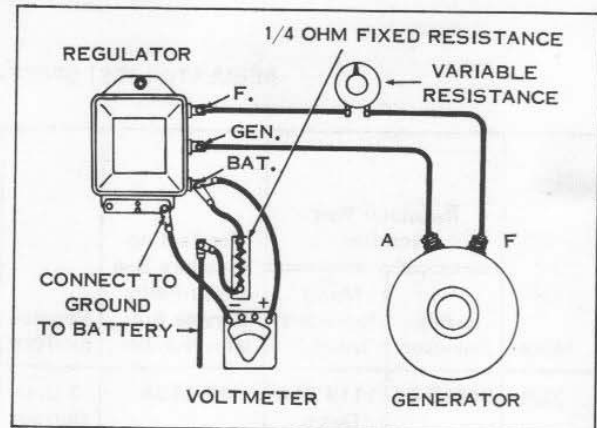

Figure 5-28.
C. TESTING VOLTAGE CONTROL UNIT SETTING (Figure 5-28)